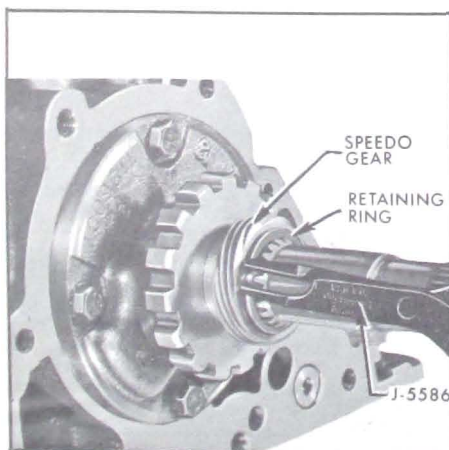

Figure 5-40-A—Lube Pressure Regulator Valve
4. Use compressed air and solvent if necessary to clean lube oil pressure regulator valve. See Figure 5-40-A.